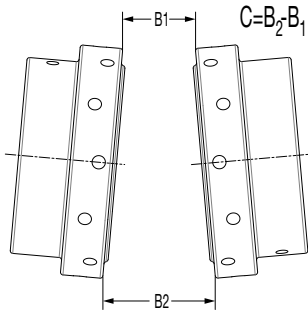

Figure 2 - Angular Misalignment
- Using scales or calipers, check the angular misalignment by measuring dimension “B” at four places on the outer diameter of the hub 90° apart, as seen in Figure 2. Use the “B₂” and “B₁” measurements to calculate “C”. Adjust the